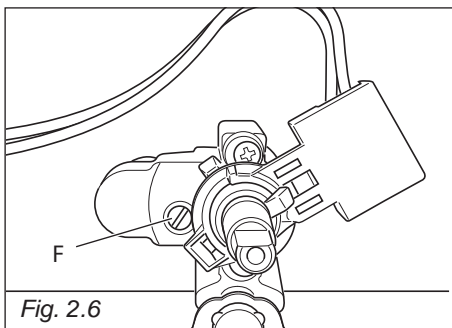

Fig. 2.6
- With a thin screwdriver turn the screw "F" until adjustment is correct (fig. 2.6).